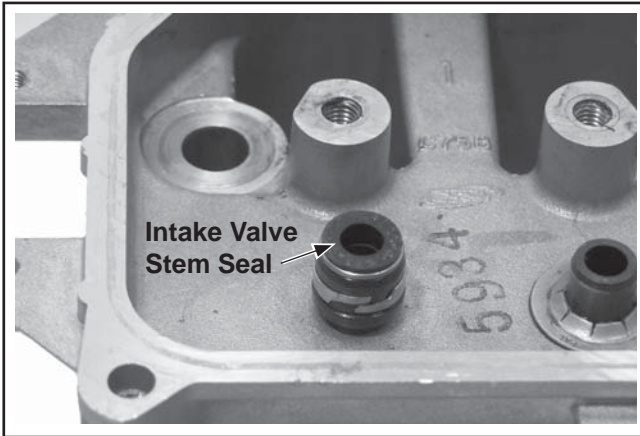

**Figure 8-33. Valve Components.**
3. Once the valve spring is compressed, remove the following items. See Figures 8-33 and 8-34: